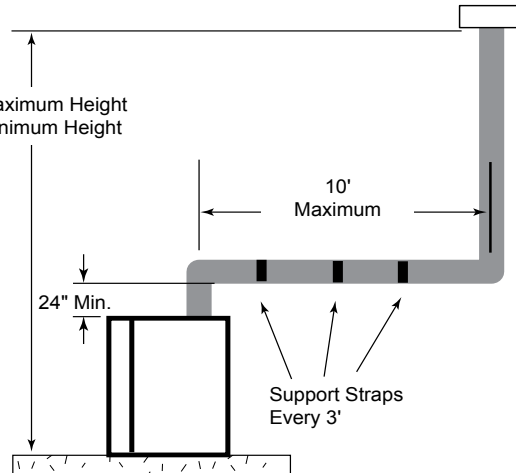

Figure 21 - Support Straps for Horizontal Runs
- Vertical installations up to 40' (12 m) in height. Up to a 10' (3 m) horizontal vent run can be installed within the vent system using a maximum of two 90° elbows. Figure 21
NOTE: If an offset is needed to avoid obstructions, you must support the vent pipe every three (3) feet. Use wall straps for this purpose. Refer to Page 18, Figure 21. Whenever possible, use 45° elbows instead of 90° elbows. The 45° elbow offers less restriction to the flow of the flue gases and intake air.